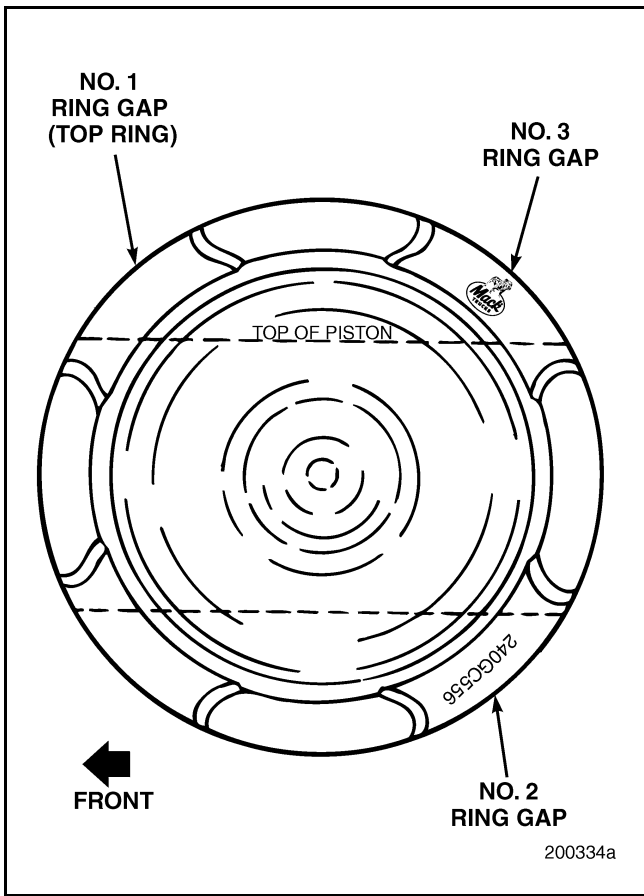

Figure 239 — Ring Gap Locations
- 2. Stagger the piston rings so that no ring gap is directly over the wrist pin bore, and no ring end gaps are aligned over each other (Figure 239).